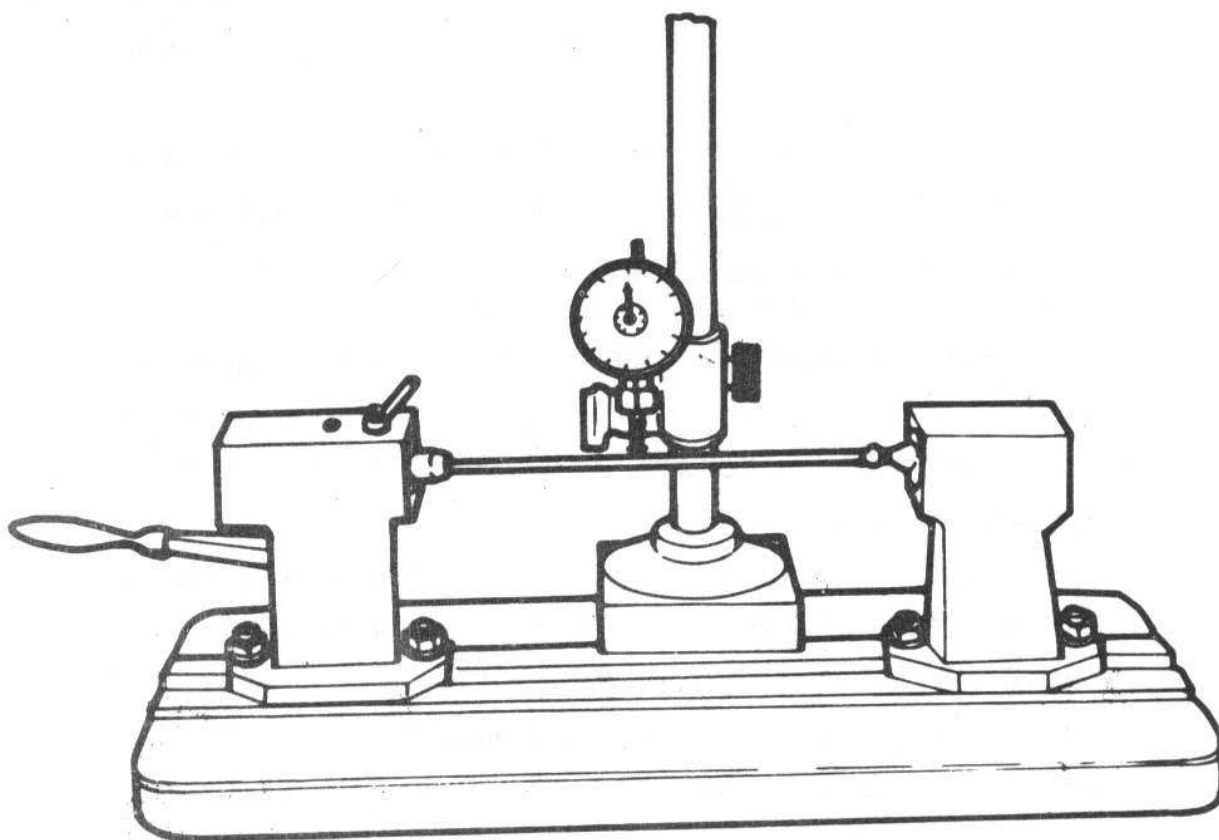

Fig. 4.50. CHECKING PUSH RODS.
- Check run out of push rods by means of comparator (see Fig. 4.50).